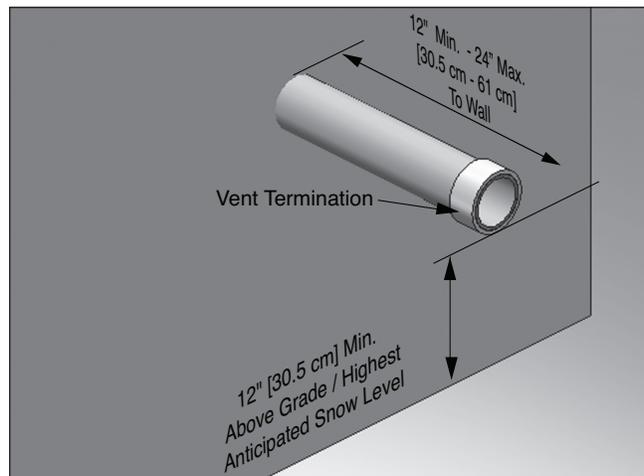
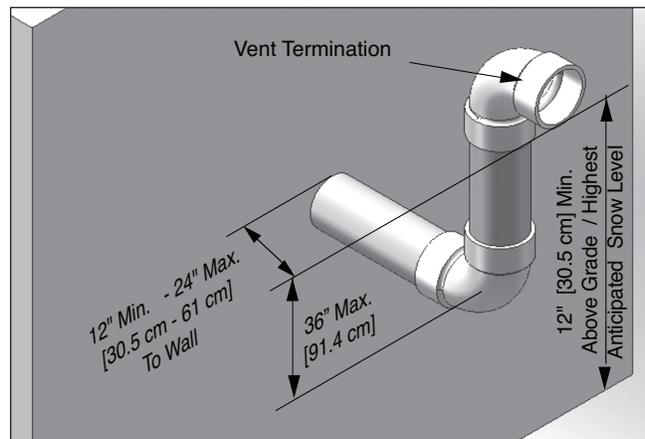
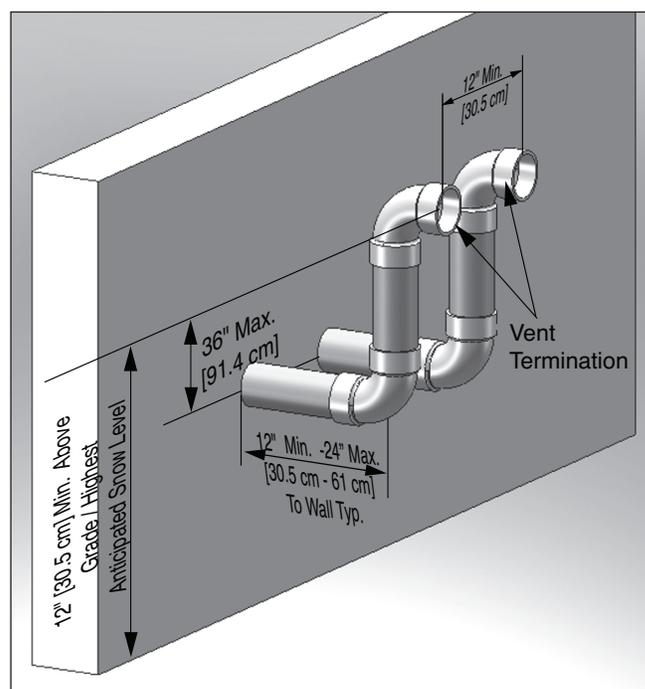

Fig. 17 - Category IV - Sidewall Termination of Vent Pipe
Fig. 18 - Category IV - Sidewall Snorkel Termination of Vent Pipe
Fig. 19 - Category IV - Sidewall Termination of Multiple Prestige Boilers
- Using a coupling as shown in *Fig. 17*.
- Using a 90° elbow as shown in *Fig. 18*.
3. Locate the vent pipe penetration to provide clearances as described in *Fig. 17* and *Fig. 18* on page 28.
- Using a coupling as shown in *Fig. 17* on page 28.
- Using a 90° elbow as shown in *Fig. 18* on page 28.
Do not extend the vent pipe outside the sidewall beyond the dimensions shown in *Fig. 17* and *Fig. 18* on page 28. Extended exposure of the vent pipe could cause condensate to freeze and block the vent pipe, resulting in substantial property damage, serious injury, or death.
2. Each vent termination must be a minimum 12" [30.5 cm] from the adjacent termination for installations in the U.S. as shown in *Fig. 19* below. For installations in Canada, provide clearances as required by CAN/CSA B149.1.
- *Fig. 19* shows one option for vent terminations of multiple PRESTIGE boilers. Either termination option shown in *Fig. 17* or *Fig. 18* on page 28 can be used for multiple PRESTIGE boilers. The 12" [30.5 cm] minimum distance between centerlines of the vent piping must be maintained for any chosen option.
- Reference *Fig. 17* and *Fig. 18* on page 28 for vent termination dimensions for each unit installed in a multiple installation.